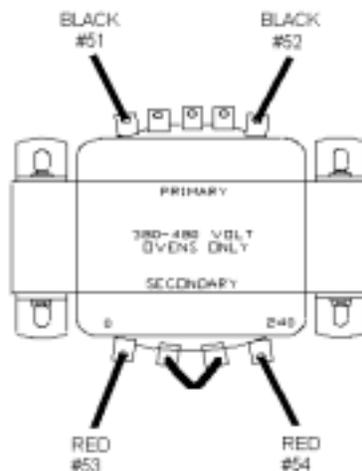

Figure 2
1. Verify voltage on the primary side of the main transformer (High Voltage Machine Only) located at entrance base of the oven. This voltage should be equal to the machine incoming voltage. (See Figure 2.).
2. Verify 240 volts on the RED # 53 and RED # 54 wires on the transformer secondary. (See figure 2.) A lack of voltage could indicate a faulty transformer that should be replaced. (For low voltage machines, verify power between circuit breakers Q27 and Q28. It should be 208-240V) Note: If machine is 208-240V, no transformer is required.